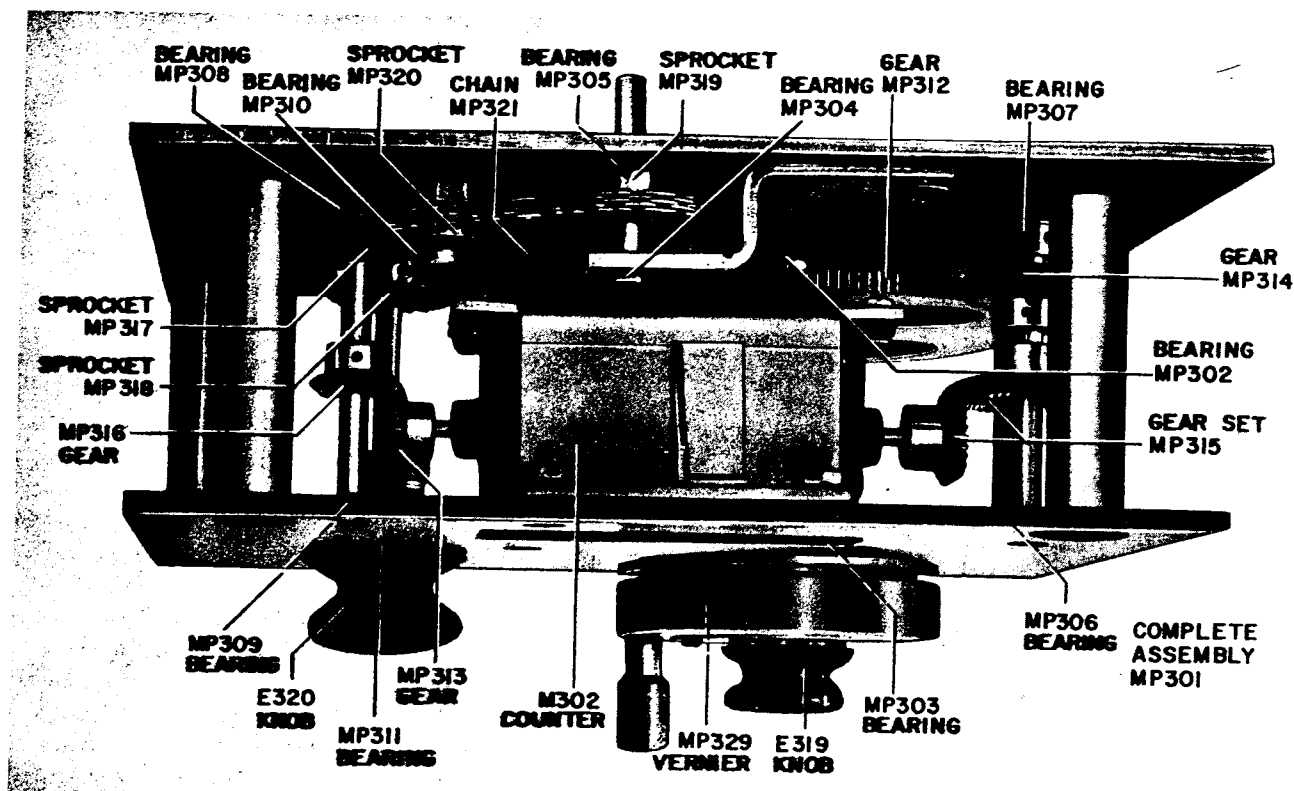
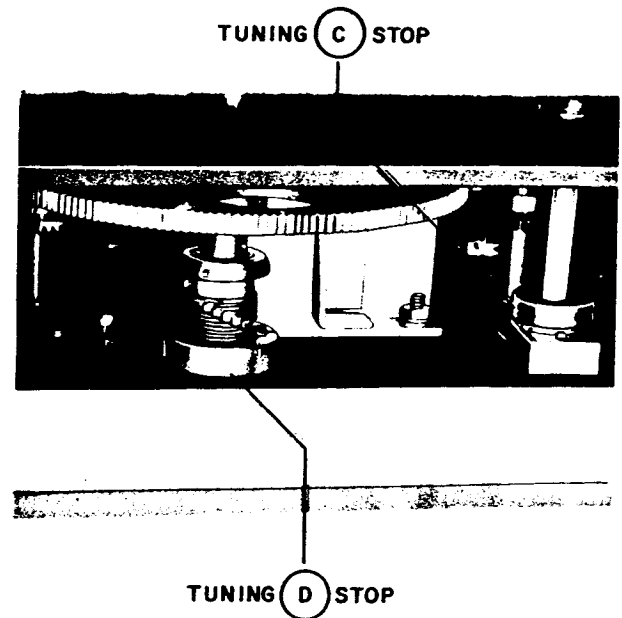

Figure 6-15. Radio Frequency Oscillator O-621/WRT-1, Master Oscillator Gear Train Disassembly
Figure 6-16. Radio Frequency Oscillator O-621/WRT-1, Stop Assemblies
(3) R-F OSCILLATOR SUBCHASSIS.—To service the inside of the keying circuit subchassis, remove the cover from the left side of the oscillator chassis. The internal parts of the master oscillator subchassis may be serviced after the cover on the front right side of the r-f oscillator chassis is removed. The internal parts of the regulator subchassis may be serviced after the cover on the rear right side of the r-f oscillator chassis is removed. All electrical parts on these three subchassis are easily replaced and require no further instruction.
(4) GEAR TRAIN REMOVAL.—To remove the mechanism from the r-f oscillator chassis, first loosen the setscrews in the two slide couplings, MP324 and MP325, and slide the couplings toward the oven. Remove TUNING (C) knob E320 and TUNING (D) vernier knob E319 at the front panel. See figure 6-15. Remove the two screws in the face of TUNING (D) knob MP329 and lift off the assembly. Remove the four truss head screws from the front panel of the chassis. Disconnect all interconnecting wiring and remove the oven assembly. Shift the tuning mechanism gear box away from the front panel, and lower the mechanism from the r-f oscillator chassis.
(5) GEAR TRAIN DISASSEMBLY.—The procedure for disassembling the gear train mechanism, figure 6-15, is not complicated and requires no detailed explanation.
(6) GEAR TRAIN REASSEMBLY.—To reassemble the tuning mechanism refer to figure 6-15 and proceed as follows:
Step 3. Slide vernier and shaft assembly, MP303, into hollow TUNING (D) shaft assembly MP329 and align the mating pinning holes. Pin the two shafts and secure the two assemblies with two screws, lock-washers and washers at the front-panel end of the assembly.
Step 4. Refer to figure 6-16 and insert the TUNING (D) shaft assembly through the front cover of the gear box. Slide the bushing assembly over the shaft, and match the bushing pin and cover hole. Slide the 11 stop washers, special stop washer, adjustable stop collar and lock collar over the shaft. Temporarily secure the lock collar with a setscrew. If the stop collar is not being replaced, pin the lock collar to the shaft through the original hole without shimming.
Step 5. Place spur gear MP312 on TUNING (D) shaft and pin it in place.
Step 6. Install the locking mechanism for the TUNING (D) shaft assembly; then adjust the clearance between the adjustment screw and the surface of the tuning shaft flange to 0.003 inch and lock this setting with the hexagonal nut provided.
Step 7. Place sprocket chain MP321 around sprocket MP319; and assemble sprocket MP319, the sprocket shaft, retaining ring, washer and sprocket mounting bracket to the rear cover of the gear box as shown in figure 6-15.
(7) GEAR TRAIN ADJUSTMENT.—To adjust the tuning mechanism, refer to figure 6-15 and proceed as follows:
Step 1. If the original lock collar and stop collar are being used, turn TUNING (D) shaft to its clockwise limit. Turn the righthand shaft of counter M302 until the last three digits are above 999 but not exposing 000. Mesh the associated miter gear (P/O MP315) and pin in this position. Turn TUNING (D) shaft to its counterclockwise limit. The last three digits of counter M302 should indicate below 000 without exposing 999.
Step 2. If the lock collar or stop collar in TUNING (D) shaft is being replaced, loosen the setscrew in the lock collar and temporarily tighten the set screw in the counter half of matched miter gears MP315. Place a 0.002 inch thick shim between the collar and the adjacent stop washer. Adjust the stop assembly so that the right hand three digits of counter M302 indicate below 000 without exposing 999 and